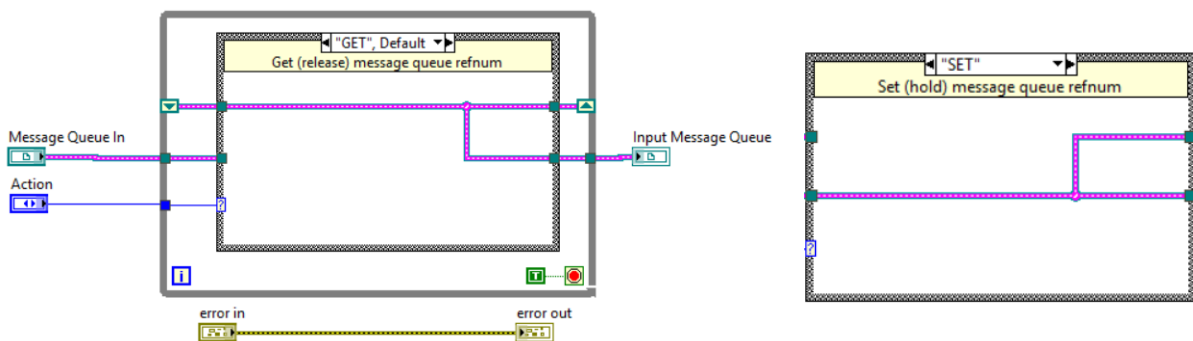

Fig. 1. MHL Queue Ref Holder block diagram
- Insert **Case structure** and connect it to the **Action** control (Fig. 1)